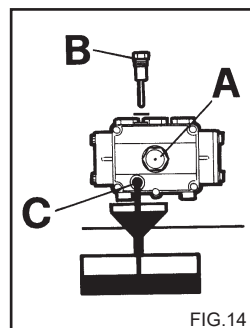

FIG. 14
- 1) Unscrew the drain cap situated under the pump (fig. 14 C).
- 2) Unscrew the cap with the dipstick (fig. 14).